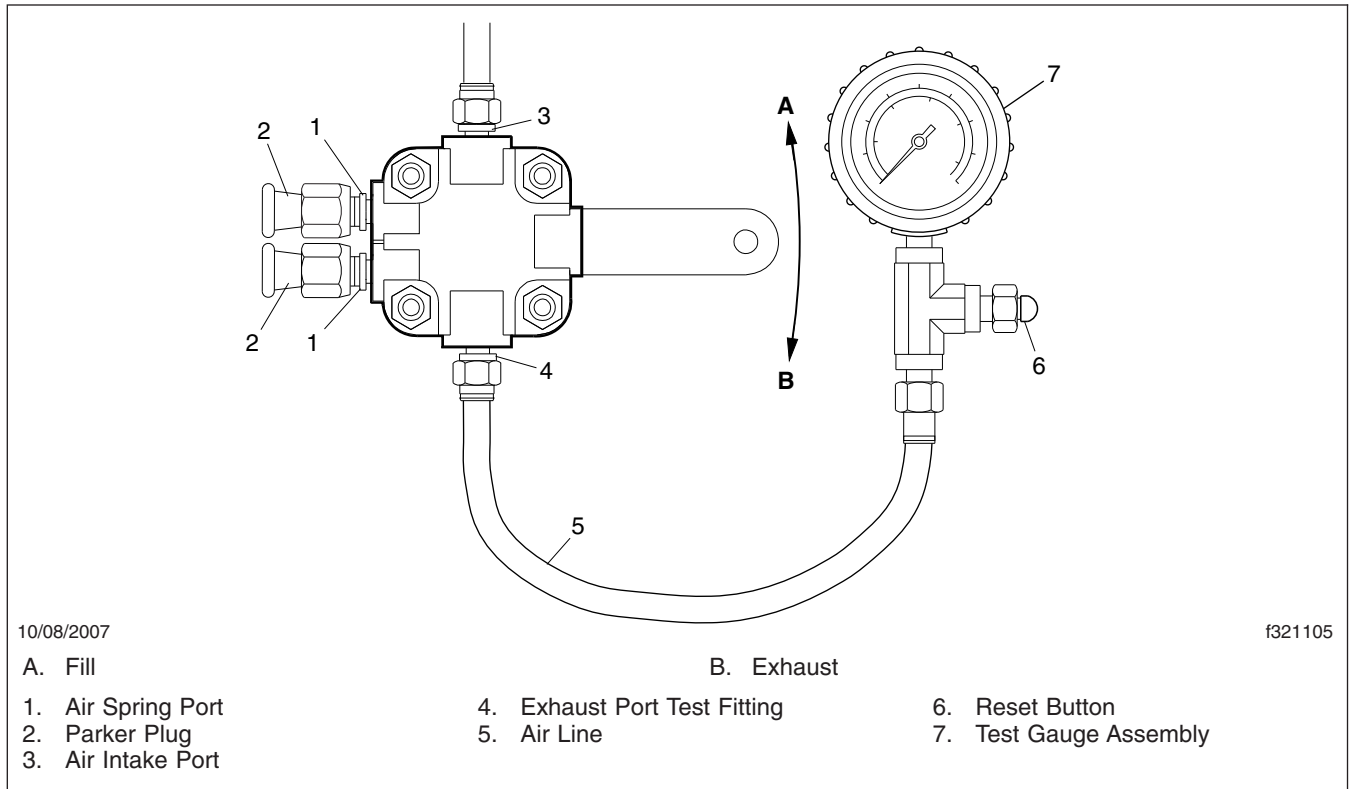

Fig. 3, Test Connections
If not equipped with an integral dump port, disconnect the air lines from the air spring ports on the height-control valve. Leave the elbow fittings (if equipped) in place. Install a Parker plug into each air spring port (or elbow fitting); see Fig. 3.
9. Clean the surface around the exhaust port, then install the test fitting into the exhaust port. The centering pin on the fitting must align with the slot on the exhaust port. Rotate the test fitting 45 degrees clockwise to lock it in place; see **Fig. 3**.